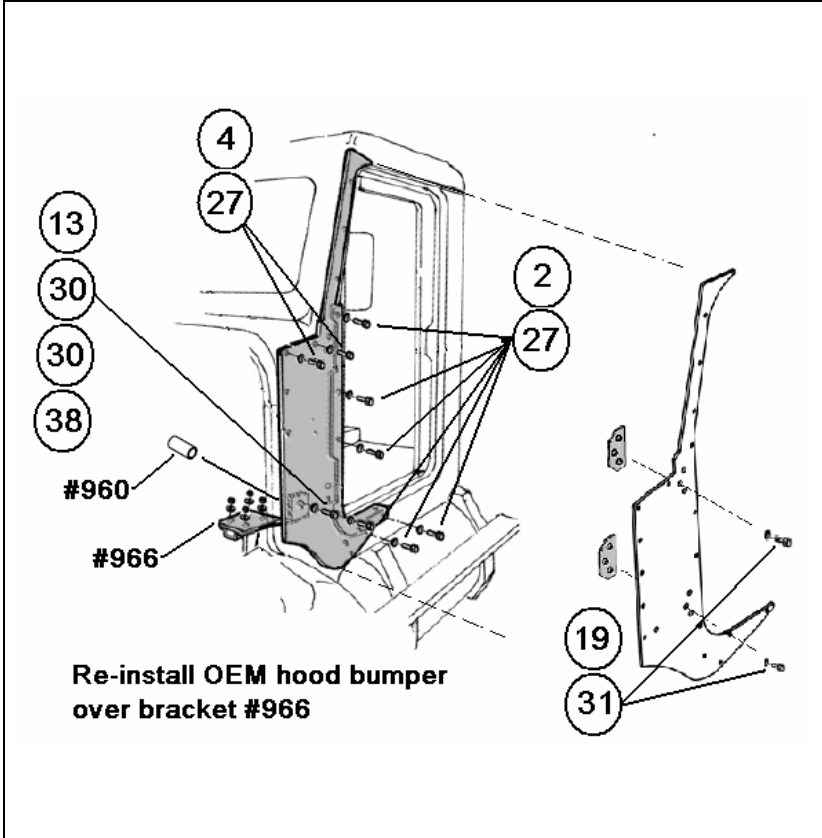
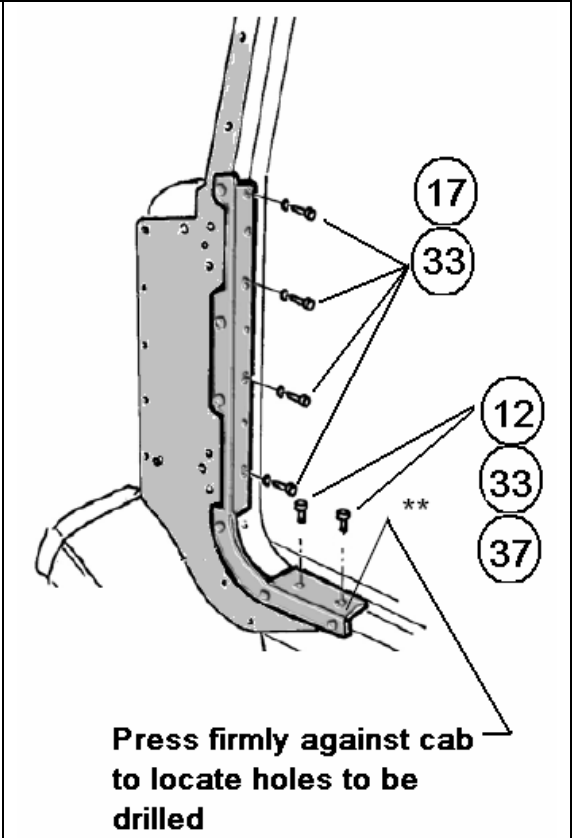

Figure 5-69b. LH Cowl Kit Installation
Figure 5-70. LH Cowl Kit Installation
4. Install bracket #966 as indicated in Figure 5-69b. The bracket is mounted between the OEM bumper and the OEM bumper mount.
5. Place a bolt (13) with a washer (30) through the appropriate hole in the external A-pillar panel #255. Place the spacer #960 on the bolt against the back side of panel #255. Set the A-pillar panel in position against the side of the vehicle cab. The bushing #960 should pass through the 30-mm hole drilled in the side of the cab (reference Section 2). The bolt should pass through the corresponding hole in bracket #966. Secure the bolt with nut (38) and washer (30).
7. Install bolts securing the overlap to the OEM hinge mount points on the A-pillar as shown in Figure 5-70.
8. All fasteners that have been installed to this point should still be loose to allow positioning of the panel. Press the lower section of the A-pillar overlap firmly against the cab so that it is inboard and down as far as possible against the lower edge of the door frame (reference Figure 5-70). Hold in this position and drill two 0.32-in.-diameter holes through the lower door frame. Install bolts, washers (12, 33, 37), and tighten.